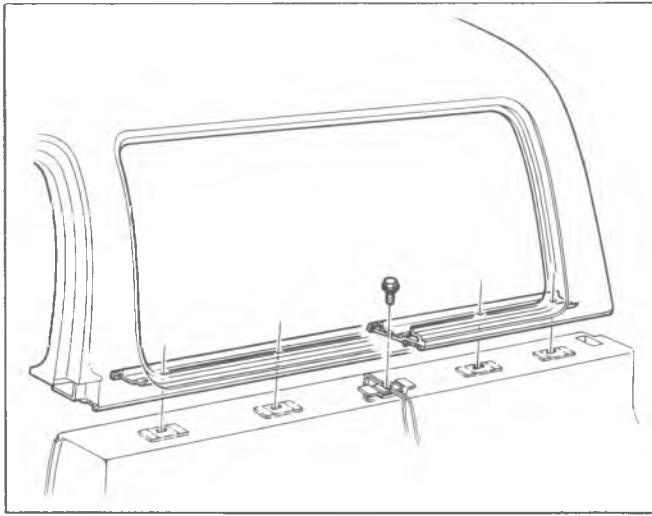

Fig. 72—Removable Top
2. Remove the bolts which retain the top to the body side panels, shown in figure 72.